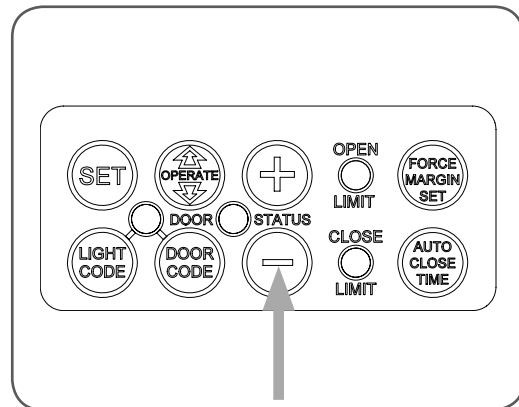

fig 24
- Press and hold the MINUS (-) button - the door will start closing (**Fig. 24**).